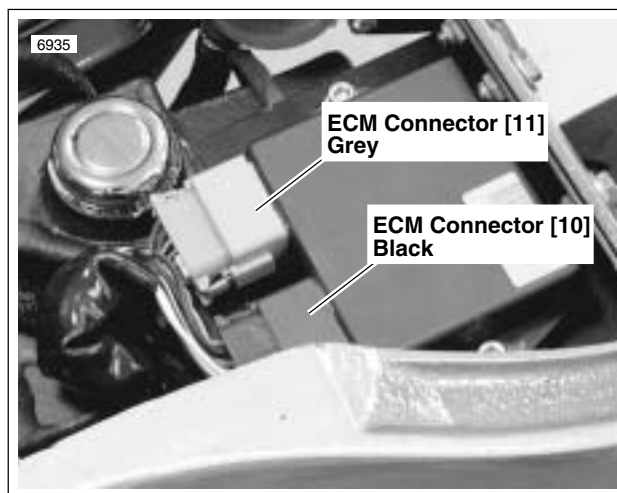

Figure 4-19. Electronic Control Module
2. See Figure 4-19. Inspect connector [10] (black) for contamination or corrosion. If connection is good, replace ECM. See 4.29 ELECTRONIC CONTROL MODULE.